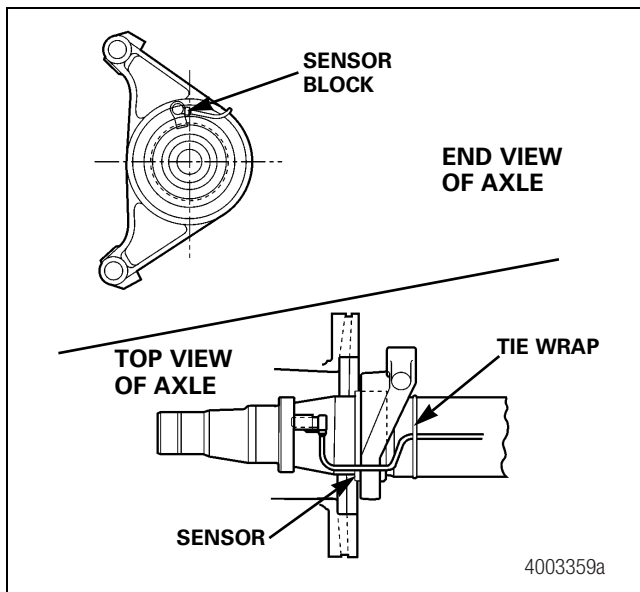

Figure 13.14
4. Route the ABS wires on axles equipped with disc brakes as follows. The sensor must be completely clear of the spinning disc brake rotor, otherwise it will be damaged. Figure 13.14.